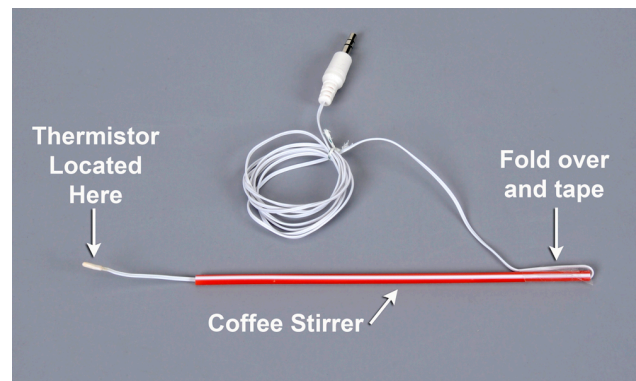

Figure 4: Preparation of Temperature Sensor
1. Prepare the three flexible white Fast Response Probes by inserting each one through a hollow tube (included with the Quad Temperature Sensor) and taping them as shown in Figure 4. You can use a coffee stirrer (see Figure 4), or any plastic or wooden rod and tape the thermistor at the end of each probe is not inside the tube, or covered with tape.